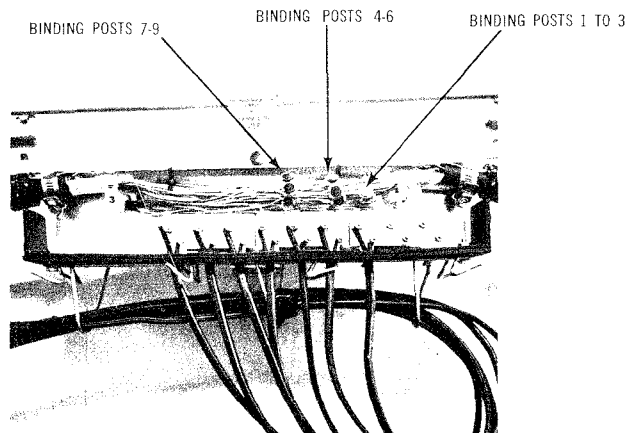

Fig. 6 — Binding Post Positions 1 to 7 Bridged to Cable Conductors
(4) Stagger the positions of the UG Connectors. Fig. 6 shows the terminal block leads from binding position numbers 1 to 7 bridged to the cable conductors.
(5) As assignments are made, continue bridging the terminal block leads in the order of their binding post position numbers.
(6) Coil the unassigned binding post leads in the vacant space between the first terminal block and the left end of the terminal body.